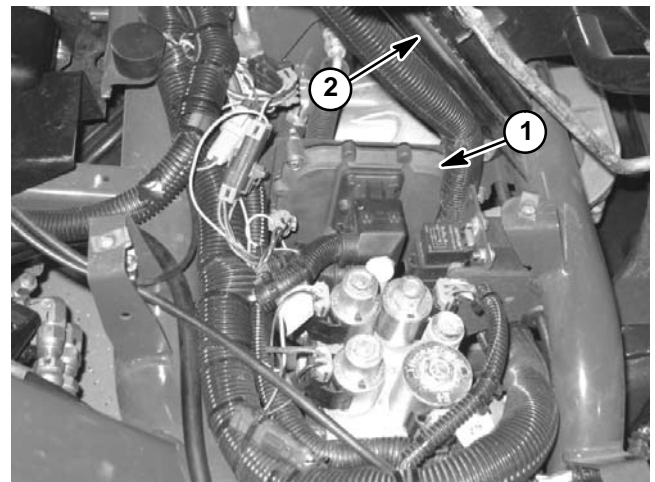

Figure 28
2. Tilt and support operator seat to access TEC controller. Locate wire harness connector for Hand Held Diagnostic Display near TEC controller. Carefully remove cap from harness connector (Fig. 28).